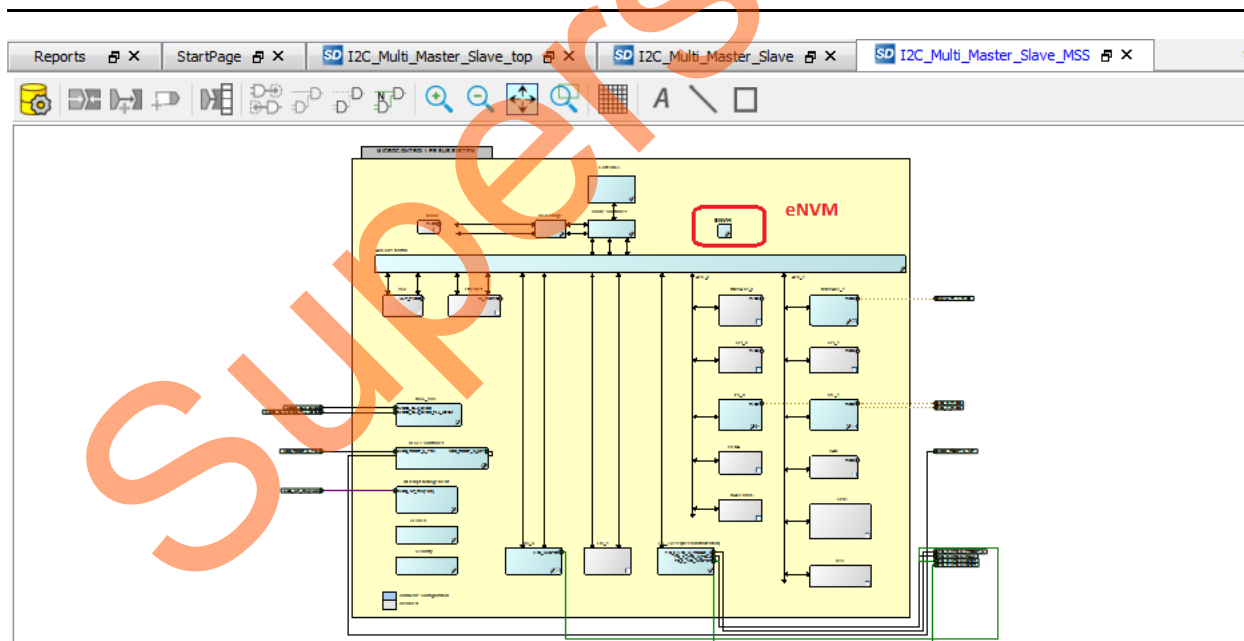

Figure 27 • MSS Component
2. Double-click I2C_Multi_Master_Slave_MSS_0 instance. I2C_Multi_Master_Slave_MSS is opened as shown in Figure 27.